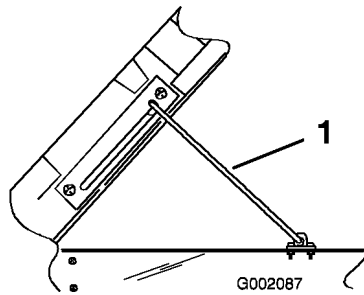

Figure 24
2. Pull the prop rod into the dentent slot, securing the box (Figure 24).